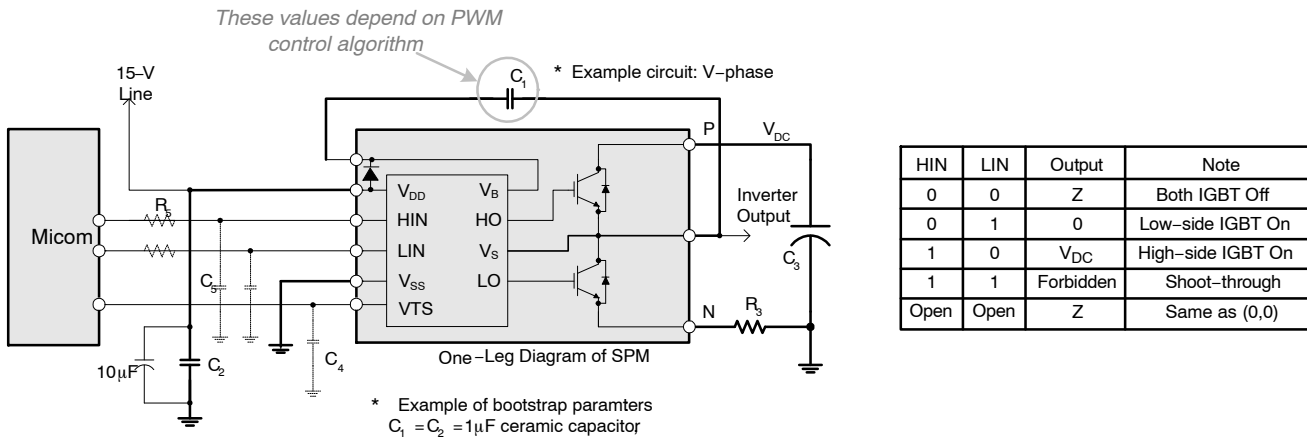

Figure 3. Recommended CPU Interface and Bootstrap Circuit with Parameters
4. Emitter terminal of each low-side IGBT is not connected to supply ground or bias voltage ground inside Motion SPM 5 product. External connections should be made as indicated in Figure 3.